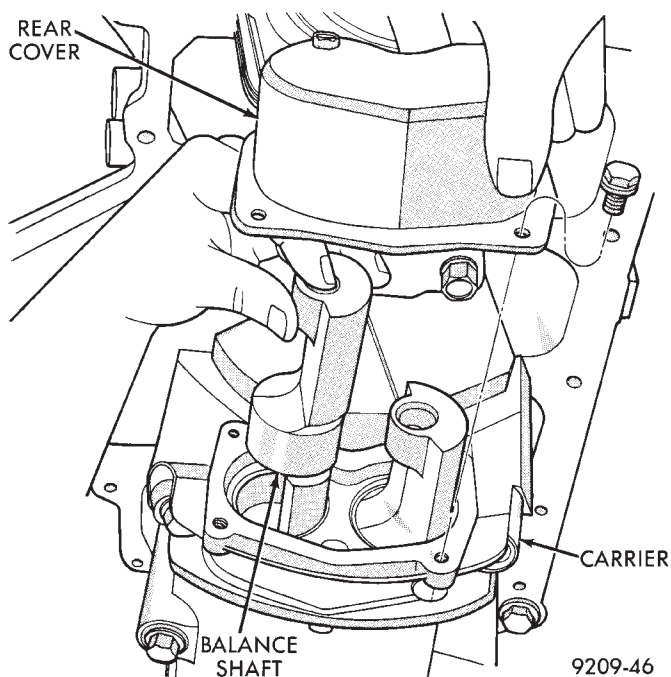

Fig. 19 Balance Shaft(s) Remove/Install
(4) Remove carrier rear cover and balance shafts. (Fig. 19).
- (1) With balance shafts installed in carrier (Fig. 19) position carrier on crankcase and install six attaching bolts and tighten to 54 N•m (40 ft. lbs.).